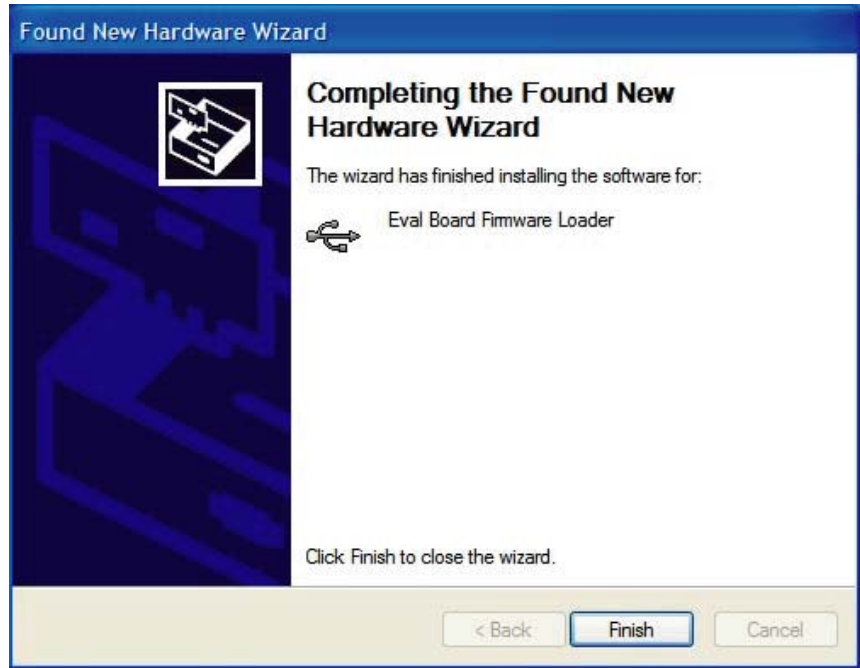

Figure 8.
- Click **Finish** when the window in Figure 8 appears.